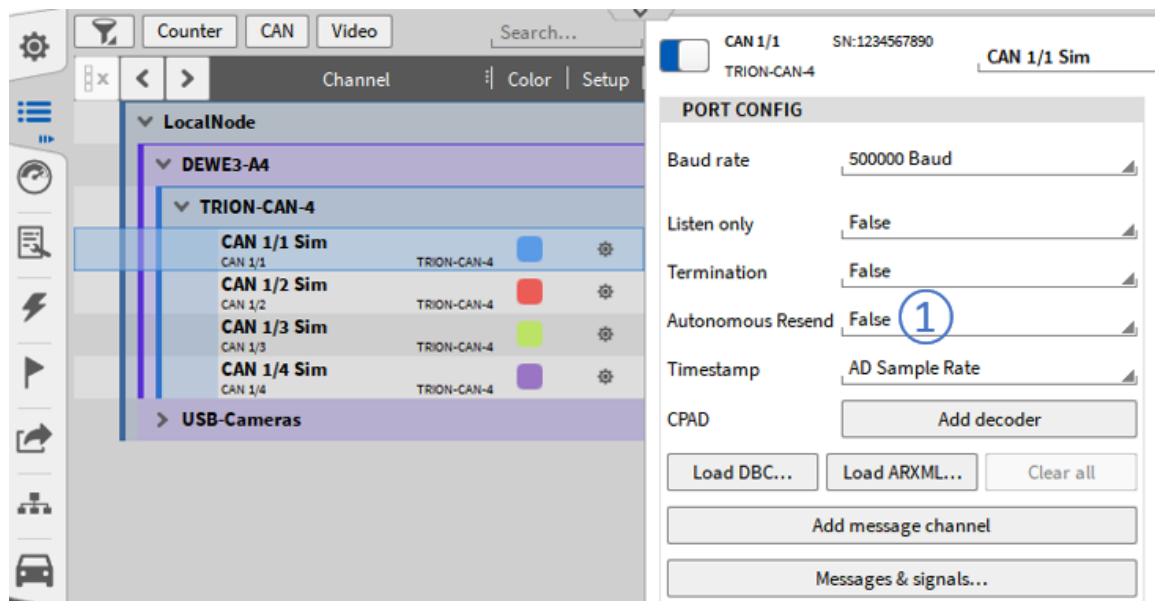

Fig. 7.213: Autonomous resend option
The Autonomous Resend option (see ① in Fig. 7.213) provides the following functionality for CAN buses which transmit data: